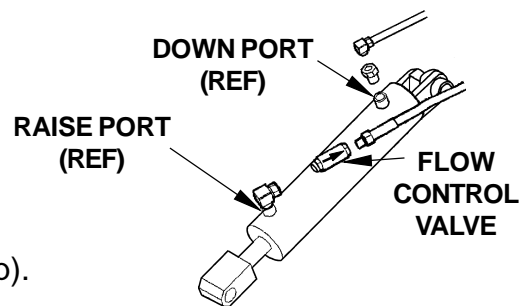

FIG. 11
7. Check if Flow Control Valve (FIG. 11) is pointing to the direction of restricted fluid flow (back toward pump). If required, remove Flow Control Valve and install it correctly (FIG. 11).